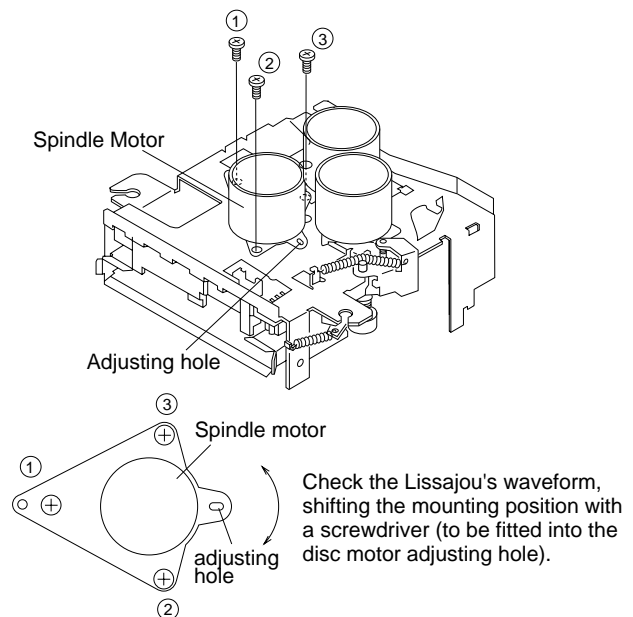

Figure 22-4
2. After the adjustments are complete, tighten the screws in numerical order: ①, ② and then ③. (See Fig. 22-4.)